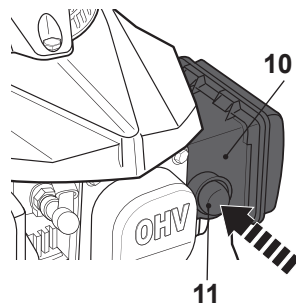

Fig. 15
The primer (11) is positioned in the front of the air filter case (10). Push the primer (11) 3 times before starting the cold engine (Fig. 15).